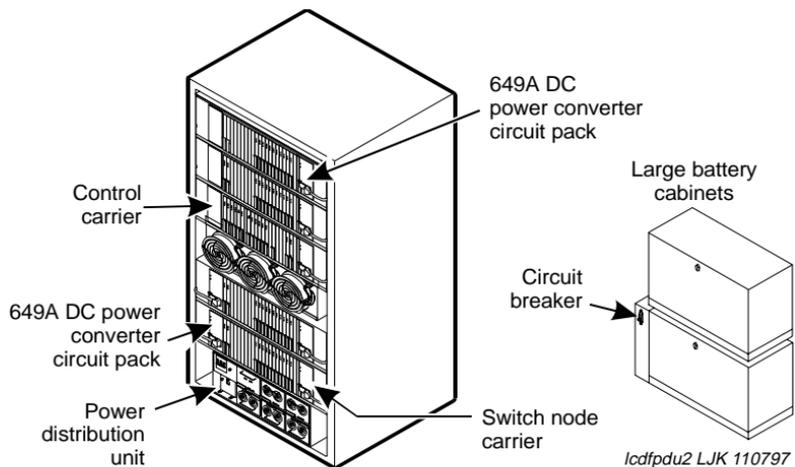

Figure 30. DC Power Distribution in Multicarrier Cabinets
Figure 30 shows the DC-power distribution in some MCCs with extended battery backup (large batteries). In r systems, the power distribution cables are on the right hand side of the cabinet only. This is because the 649A DC power converter circuit pack is located on the right side of the carrier. Switch node (SN) carriers require two 649As and two cables.